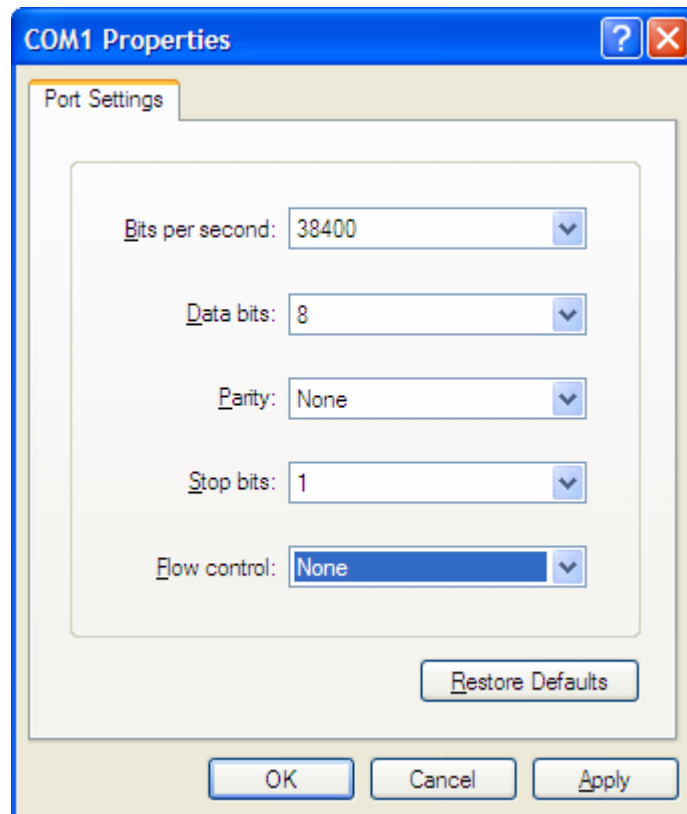

Fig. 2 HyperTerminal COM Settings
7. Name the connection and select an icon, then click “OK”. Next, choose the communication port (usually COM 1) and click “OK”. Finally set the communication settings to those found in figure 2 and click “OK” (please note that your baud rate may be different).